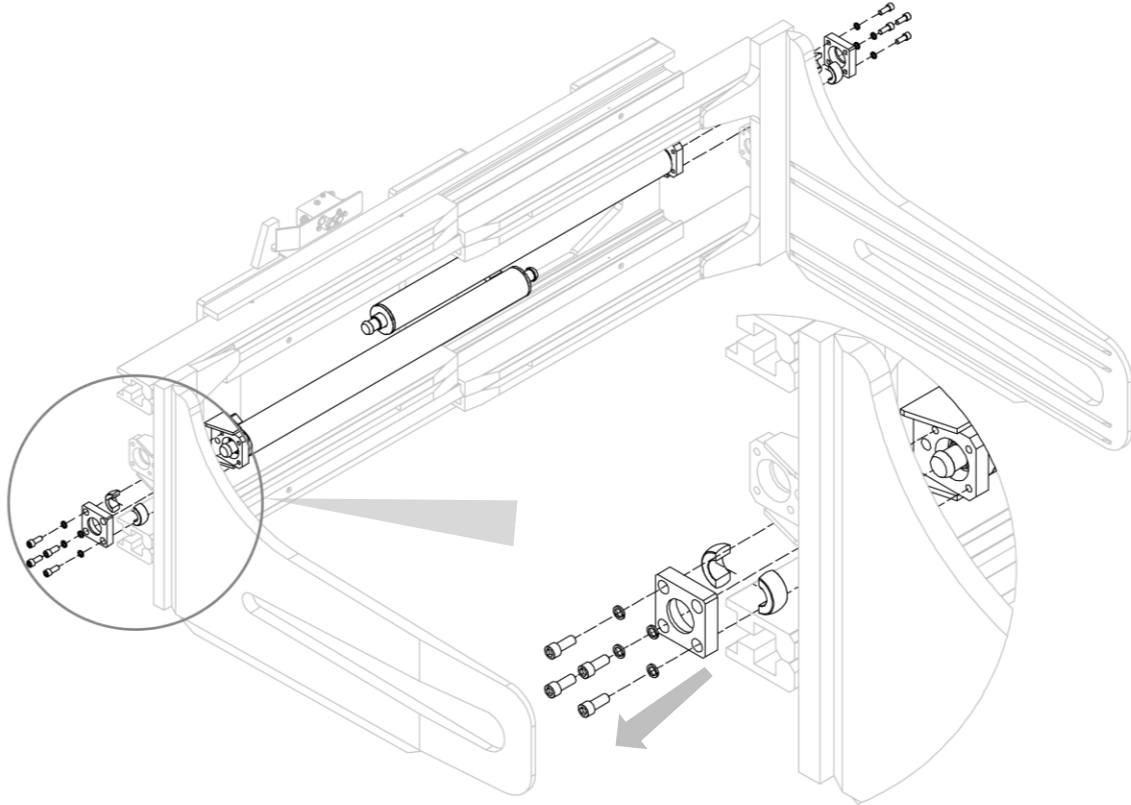

Figure 22
7. Remove the counterflanges and collars that secure the cylinders to the equipment assembly; once this is done, remove the cylinders, taking care not to damage them (see *Figure 22*).